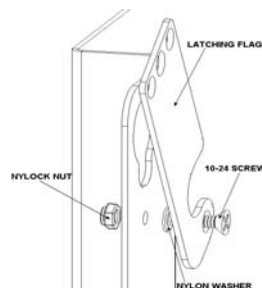

Figure 2
1. Attach latching flag to PSM (see Figure 2) and tighten the nut and screw until friction will hold the flag in place.